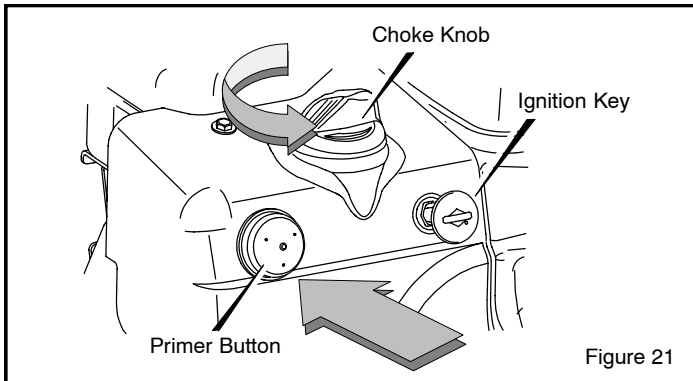

Figure 21
3. Insert key into ignition slot. Make sure it snaps into place (Figure 21). Do not turn key.